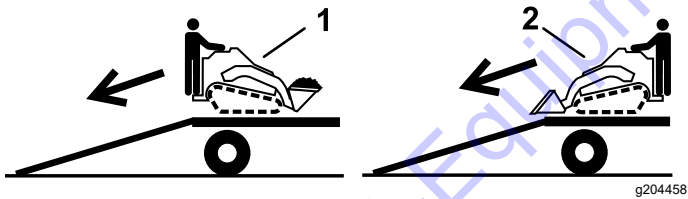

**Figure 29**
8. Use the metal tie-down loops on the machine to securely fasten the machine to the trailer or truck with straps, chains, cable, or ropes (Figure 29). Refer to local regulations for tie-down requirements.